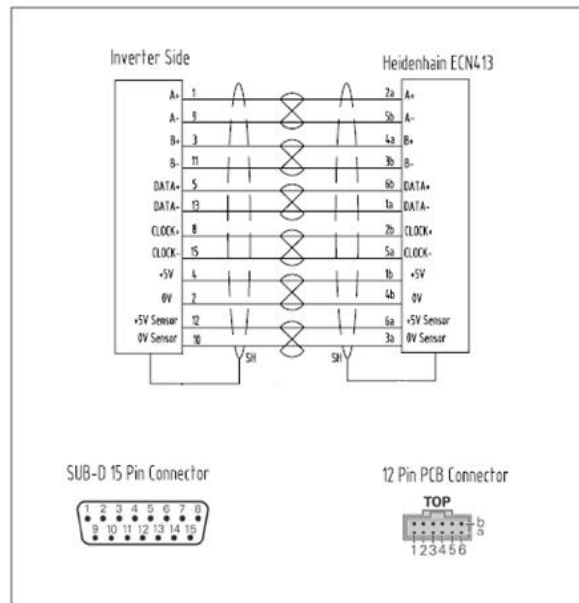

Figure 7: Encoder Connections
These machines are supplied with Heidenhain Endat absolute encoder ECN1313 with sub D 15-pin connector. The sine/cosine incremental resolution is 2048 pulses per revolution. See Figure 7.
1. Check the gap “A” (brake stroke) at point 1, 2, 3, and 4 with feeler gauge as Figure 7 shows. Max. Gap “A” of brake after wear should be $< 0.7\text{mm}$ (0.028”), otherwise the gap must be readjusted.